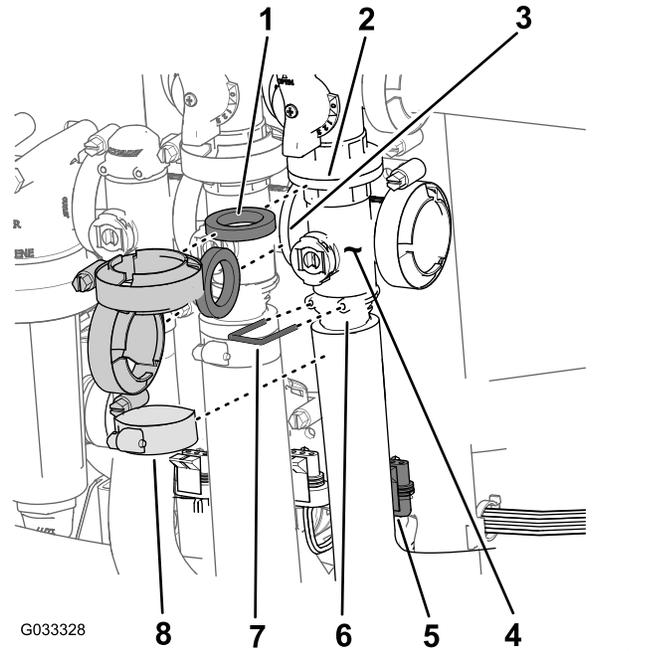

Figure 72
1. Remove the clamps and gaskets that secure the manifold for the master-section valve (Figure 72) to the master-section-bypass valve, agitation valve, and master-section-manifold valve (at the end of the hose for the flow meter).
2. Remove the retainer that secures the outlet fitting to the manifold for the master-section valve (Figure 72).